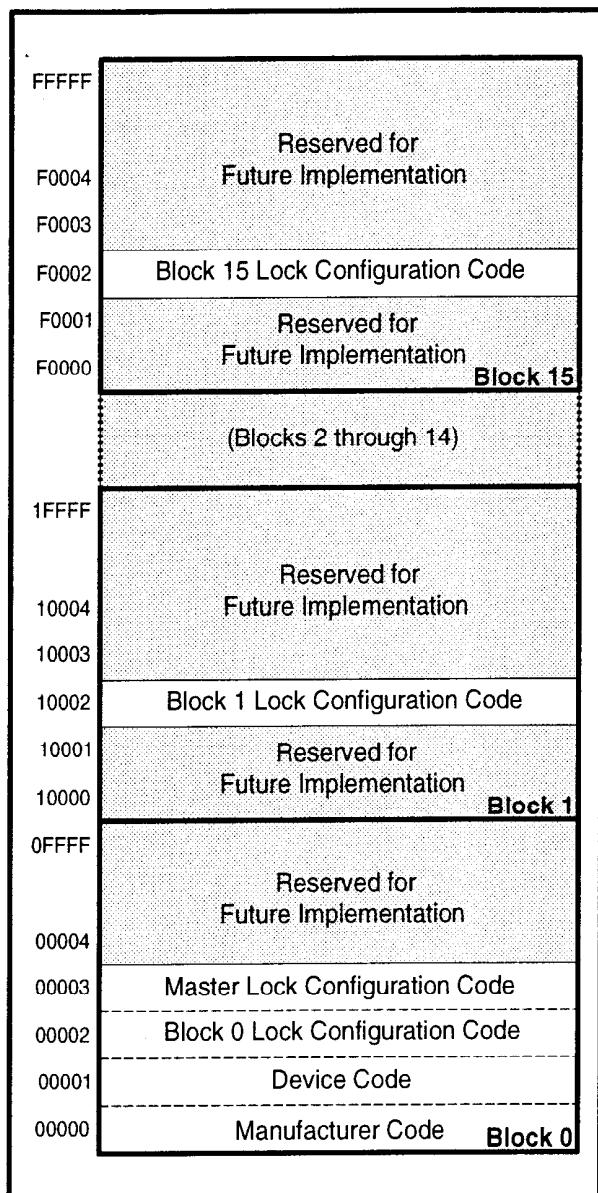

Figure 4. Device Identifier Code Memory Map
The read identifier codes operation outputs the manufacturer code, device code, block lock configuration codes for each block, and the master lock configuration code (see Figure 4). Using the manufacturer and device codes, the system CPU can automatically match the device with its proper algorithms. The block lock and master lock configuration codes identify locked and unlocked blocks and master lock-bit setting.
IA=Identifier Code Address: see Figure 4.
The identifier code operation is initiated by writing the Read Identifier Codes command. Following the command write, read cycles from addresses shown in Figure 4 retrieve the manufacturer, device, block lock configuration and master lock configuration codes (see Table 5 for identifier code values). To terminate the operation, write another valid command. Like the Read Array command, the Read Identifier Codes command functions independently of the V_{PP} voltage and RP# can be V_{IH} or V_{HH}. Following the Read Identifier Codes command, the following information can be read:
1. X selects the specific block lock configuration code to be read. See Figure 4 for the device identifier code memory map.